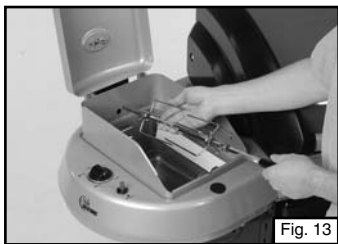

Fig. 13
3. Insert the pointed end of the spit rod into the opening in the motor and rest the collar on the frame (Fig. 13). The spit rod should freely turn when the motor is turned on.